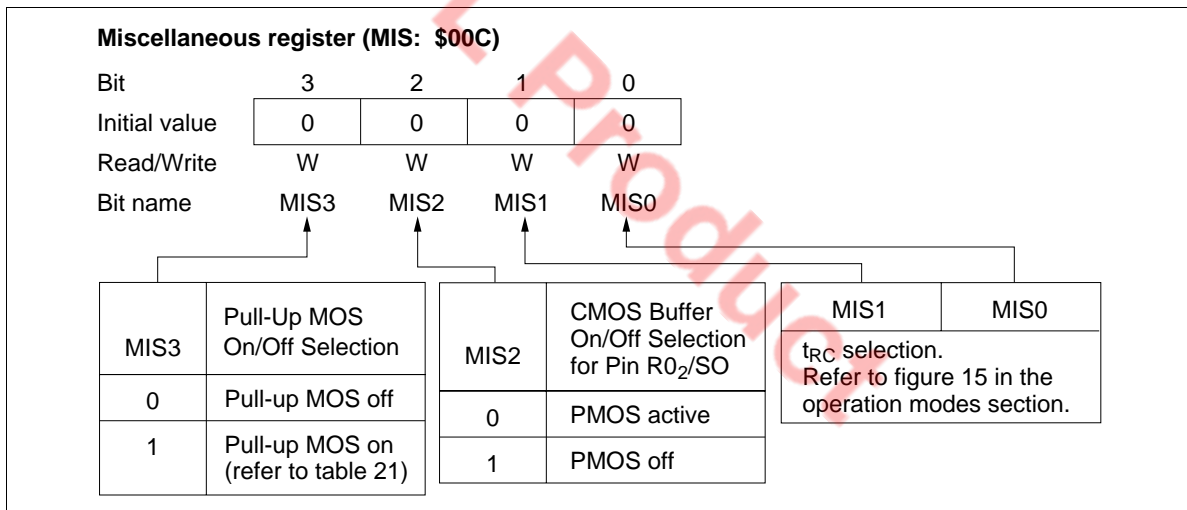

Figure 34 Miscellaneous Register (MIS)
**Pull-Up MOS Transistor Control:** A program-controlled pull-up MOS transistor is provided for each input/output pin. The on/off status of all these transistors is controlled by bit 3 (MIS3) of the miscellaneous register (MIS: \$00C), and the on/off status of an individual transistor can also be controlled by the port data register (PDR) of the corresponding pin—enabling on/off control of that pin alone (table 21 and figure 34).